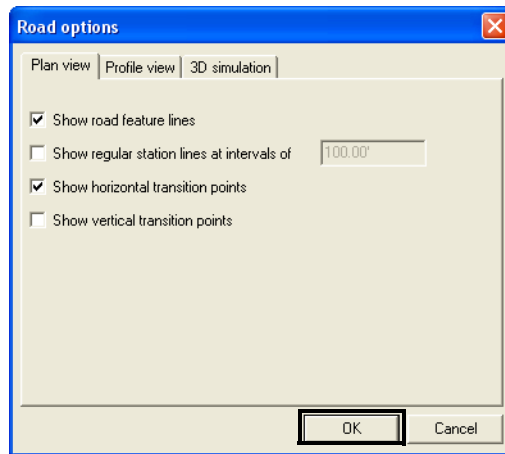

Figure 6-50. Set Plan View and Profile View Options
2. On the *Plan view* tab, select the desired parameters (Figure 6-50) and press **OK**.